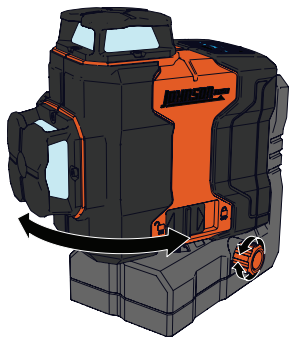

Figure 18
- When using the vertical (plumb) laser beam, rotate the unit to the desired position. Use the Fine-tuning adjustment knob to make small adjustments. (Figure 18)